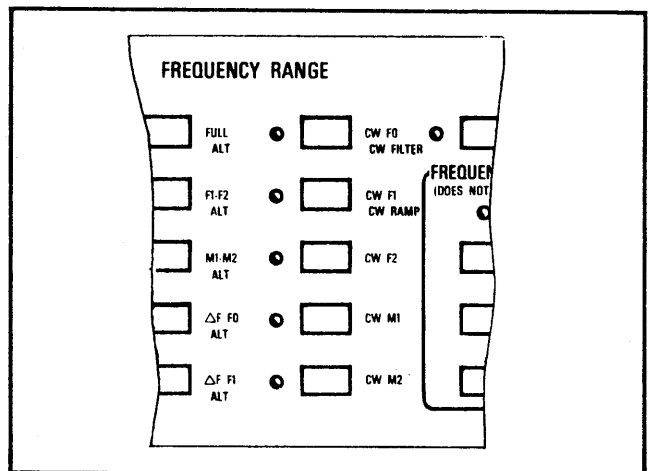

Figure 3-11. CW F0, CW F1, CW F2, CW M1/ and CW M2 Pushbuttons
2. CW FILTER Pushbutton (Figure 3-11). Provides enable/disable, conditional-in/unconditional-out control over the CW filter located in the YIG oscillator tuning circuit. When enabled (LED on), this pushbutton causes the CW filter to be switched-in for CW and narrow (≤ 50 MHz) sweep modes, and
3. CW RAMP Pushbutton (Figure 3-11). Provides a 0-10V HORIZ OUTPUT sweep ramp for all CW modes (CW F0, CW F1, CW F2, etc.). This pushbutton should be activated (LED on) when the sweep generator is used with a Model 560 or 560A Scalar Network Analyzer; otherwise, the pushbutton should be off. CW RAMP is selected by first pressing SHIFT, then this pushbutton. Approximately 1 second after pressing CW RAMP, the front panel will automatically return to its unshifted (normal) state. RESET (default) state: Off.
b. CW F0, CW F1, CW F2, CW M1, and CW M2 Pushbuttons (Figure 3-11).